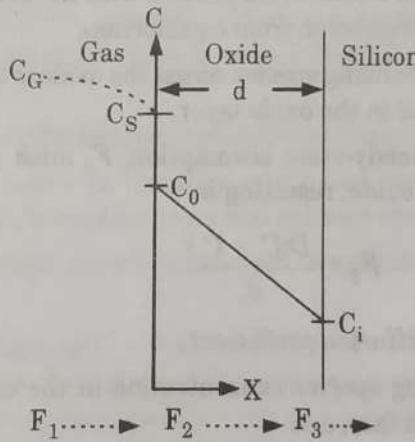

Fig. 2.13.1.
3. Fig. 2.13.1 shows the silicon substrate covered by an oxide layer that is in contact with the gas phase.